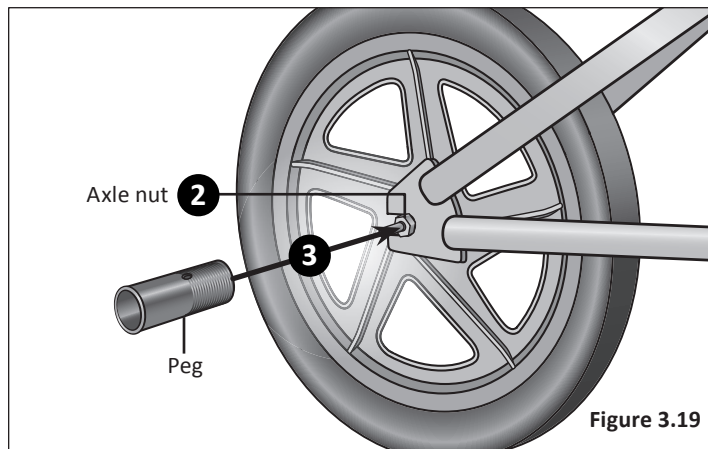

Figure 3.19
- ❶ **Do not** loosen or remove axle nuts. **Figure 3.19**
- ❷ Check to make sure axle nuts are properly tightened before installing pegs.
- ❸ Thread the pegs on the axle over the axle nut.